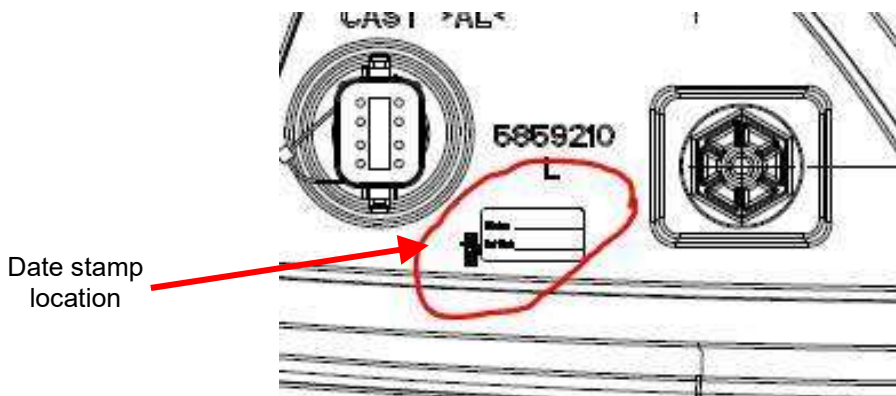

Figure 2: CS and SS Headlamp Assembly Date Code Location
5. Inspect the date stamp on the existing curbside and street side headlamp assemblies, an inspection mirror may be needed to view the date stamp location, see Figure 2 for date stamp location.